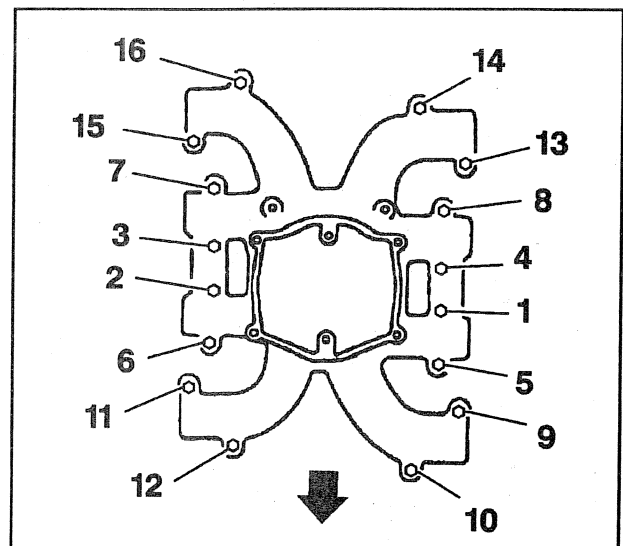

Figure 8—Intake Manifold Torque Sequence
- Intake manifold bolts to 42 N.m (31 lbs. ft.). Use the tightening sequence shown in figure 8.